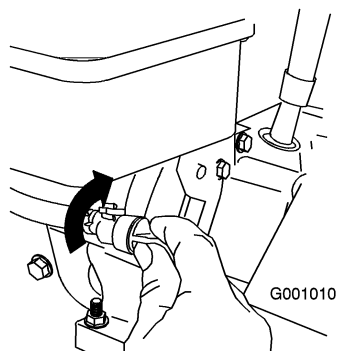

Figure 26
3. Close the fuel shutoff valve by rotating it clockwise (Figure 26).